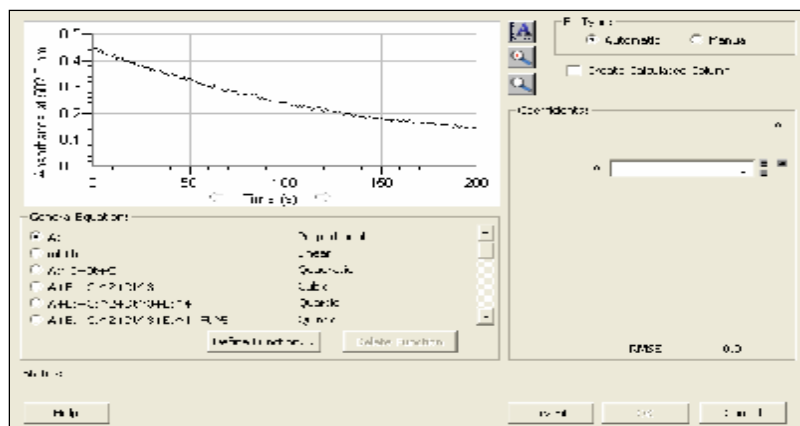

Figure 6
- Click curve fit, to calculate a function for your data (see Figure 6). Try an exponential function to fit the data.